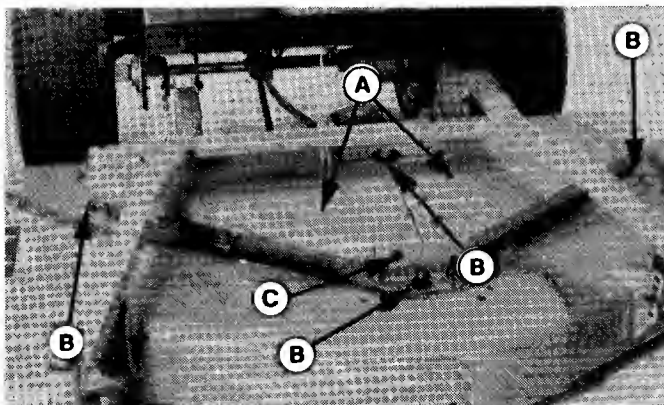
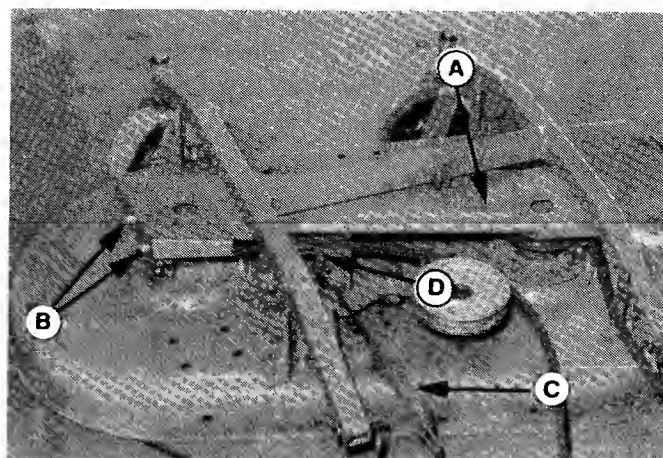
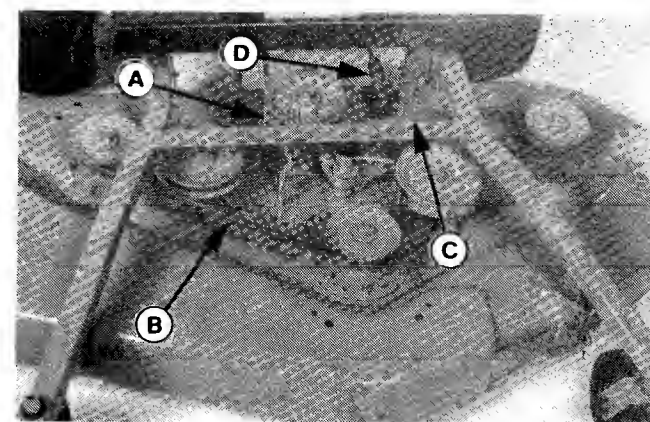

Figure 19. Belt Covers (42" Mower)
Figure 20. Belt Cover (36" Mower)
Figure 21. Mower Belt (42" Mower Shown)
2. For the 42" mower remove the two belt covers (A, figure 19) by removing nuts and washers at four locations (B) and one screw (C). For the 36" mower, remove the two screws at each end of belt cover (A, figure 20).
6. Notice the brake location. For 36" mower see item D, figure 20. For 42" mower see item C, figure 21. Be sure the belt is located so that it is trapped between fixed bracket and the belt brake rod when PTO lever is placed in disengaged position.